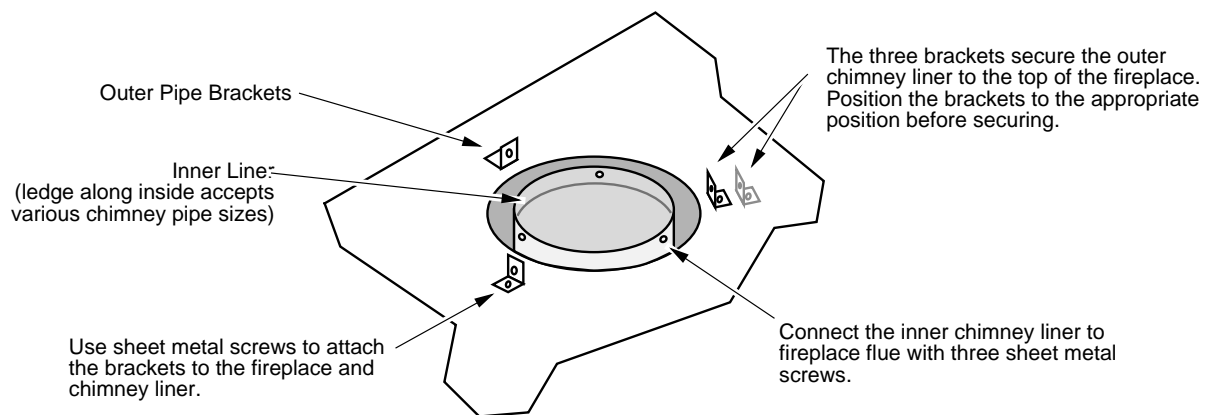

Figure 21
- Secure the inner and outer chimney liner to the fireplace (see Figure 21).